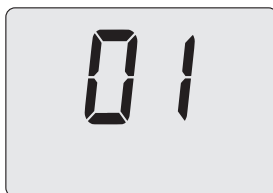

Figure 9.32
- By using buttons 16 or 17 (Figure 9.21) it is possible to modify the value of parameter A21 (Figure 9.32).